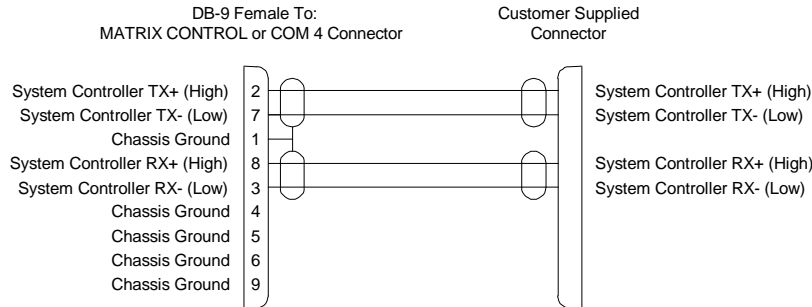

Figure 12. RS-422 CPU Link Cable
- COM 4 is an RS-422 CPU Link similar to the RS-232 CPU Link, except the cable may be up to 4000 feet in length and an RS-422 interface card must be installed in the expansion bus. COM 4 may be used with any of the protocols shown in Table 2 on page 10. Consult the manual for your system controller to determine how to set the communication rate. If necessary, a cable may be fabricated in the field as shown in Figure 12.